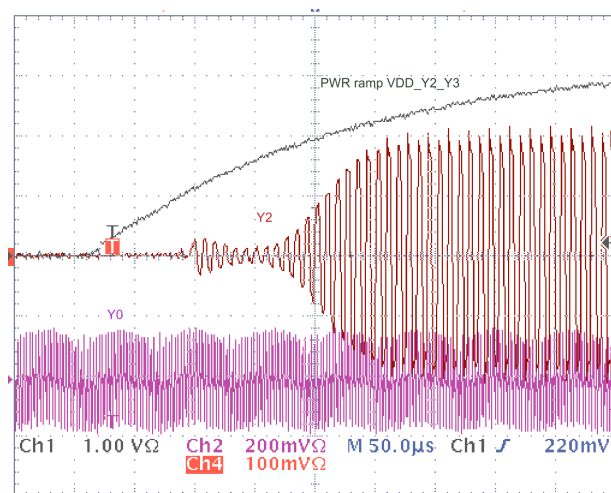

Figure 58. Sequencing the Output Turnon Through Sequencing the Output Supplies
2. **Output Power supply domain control:** An even easier scheme might be to connect the clock output power supply VDD_Yx to the corresponding DSP input clock supply domain. In this case, the CDCM6208 output will remain disabled until the DSP rails ramps up as well. Figure 58 shows the turnon behavior.